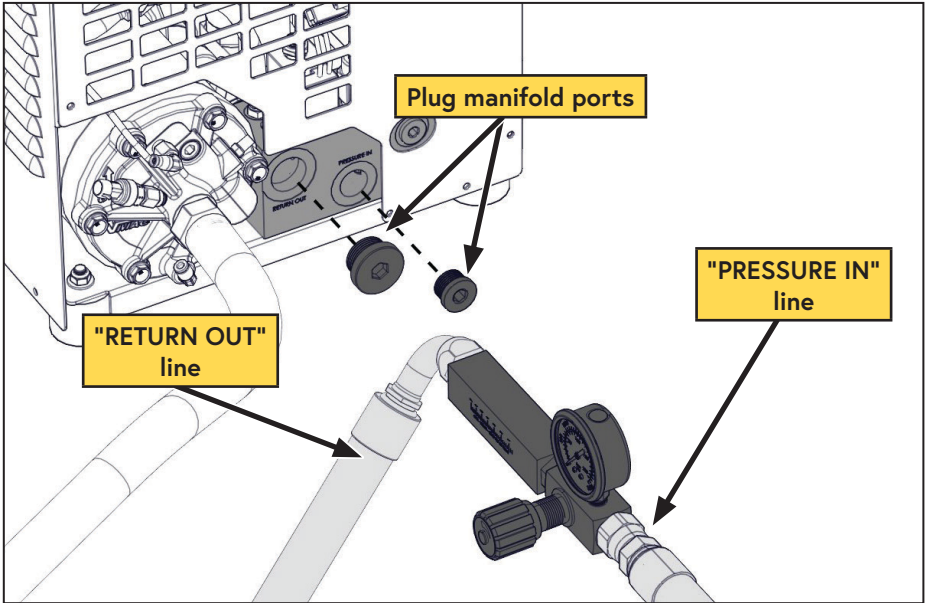

Figure 41 — Install hydraulic test tool
- Remove the line connected to the "PRESSURE IN" port of the VMAC Hydraulic Driven Air Compressor and connect it to high pressure port of the hydraulic test tool (Figure 41).
- Remove the line connected to the "RETURN OUT" port of the VMAC Hydraulic Driven Air Compressor and connect it to return port of the hydraulic test tool (Figure 41).
- Plug ports on the VMAC hydraulic manifold to prevent contaminants from entering the system (Figure 41).